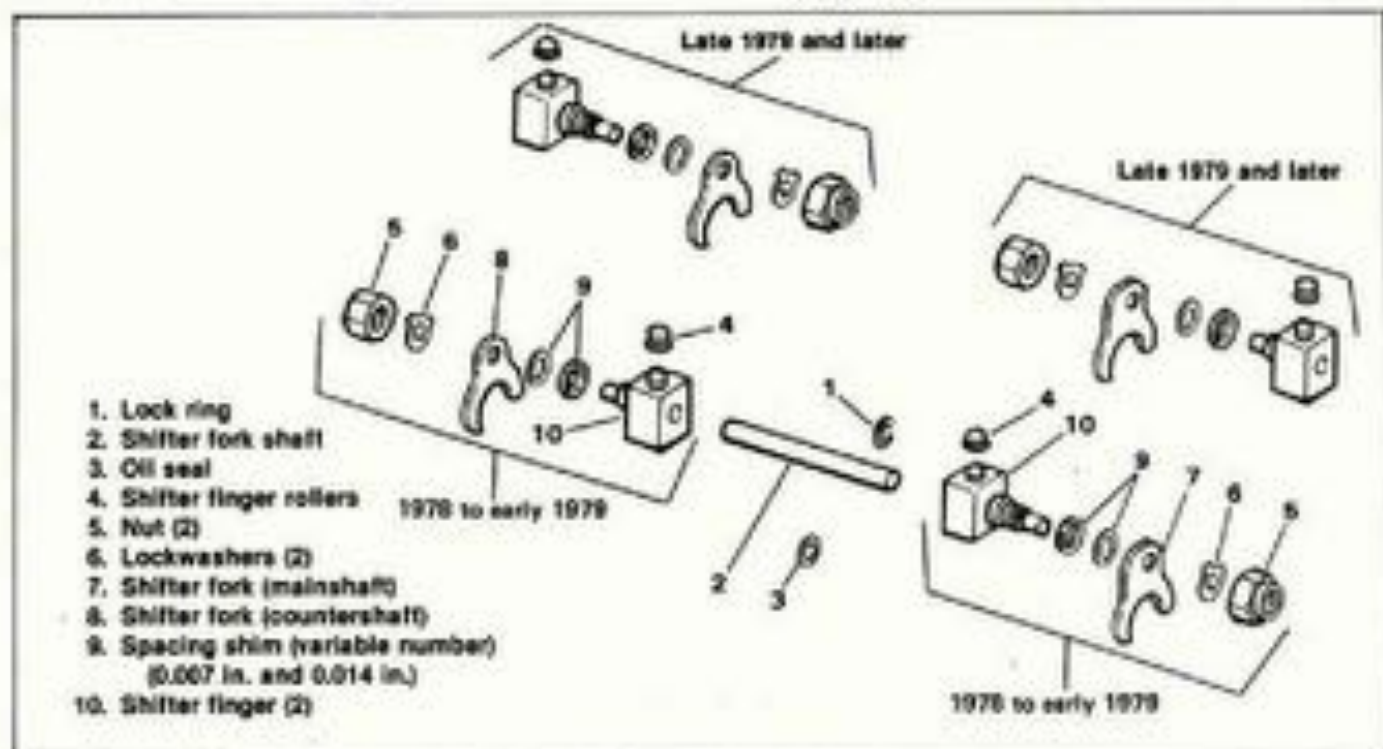

Figure 7-26. Shifter Fork — Exploded View
3. If clearances are not equal and correct, the fork assembly position must be changed by increasing or decreasing the number of spacers (9, Figure 7-26) in the assembly. Spacers are available in .007 and .014 in.
The disassembly and assembly procedures are the same for early and late style transmissions. However, on late 1979 and later transmissions, the shifter fork assemblies are reversed on the fork shaft, that is, the nuts are toward the center of the shaft. See Figure 7-26.
6. See Figure 7-26. Bend the tabs on the lockwashers away from the nuts (5). Remove the nuts (5), lockwashers (6), forks (7 and 8), spacer (9) (9) and shifter rollers (4) from the shifter fingers (10).
1. See Figure 7-26. Place the spacer(s) (9), shifter fork (7 and 8), lockwasher (6) and nut (5) on shifter finger. Tighten nut to 10-12 ft-lbs torque. Do not overtighten nut or shifter finger will bind on the shaft.
4. Install the shifter rollers (4, Figure 7-26).